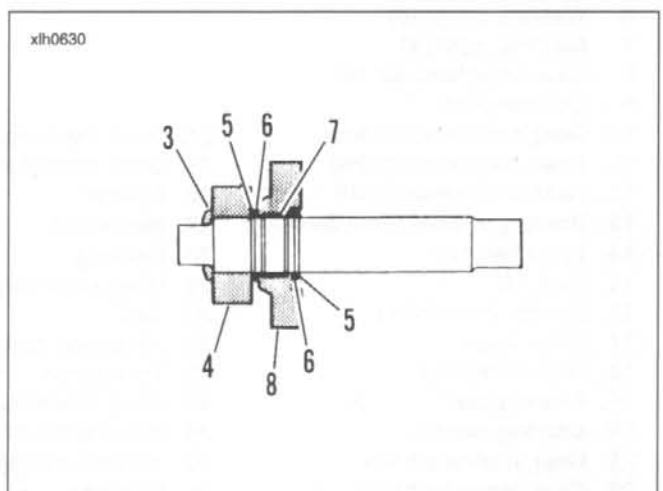

Figure 6-42.
8. See Figure 6-42. Remove beveled spacer (3) and countershaft 4th gear (4).
9. Expand retaining ring (5) located next to countershaft 1st gear (8). Remove retaining ring (5) and thrust washer (6). Slide countershaft 1st gear off end of shaft. Remove split bearing (7).
10. Remove thrust washer (6). Expand remaining retaining ring (5) and slide off shaft. This completes disassembly of countershaft.